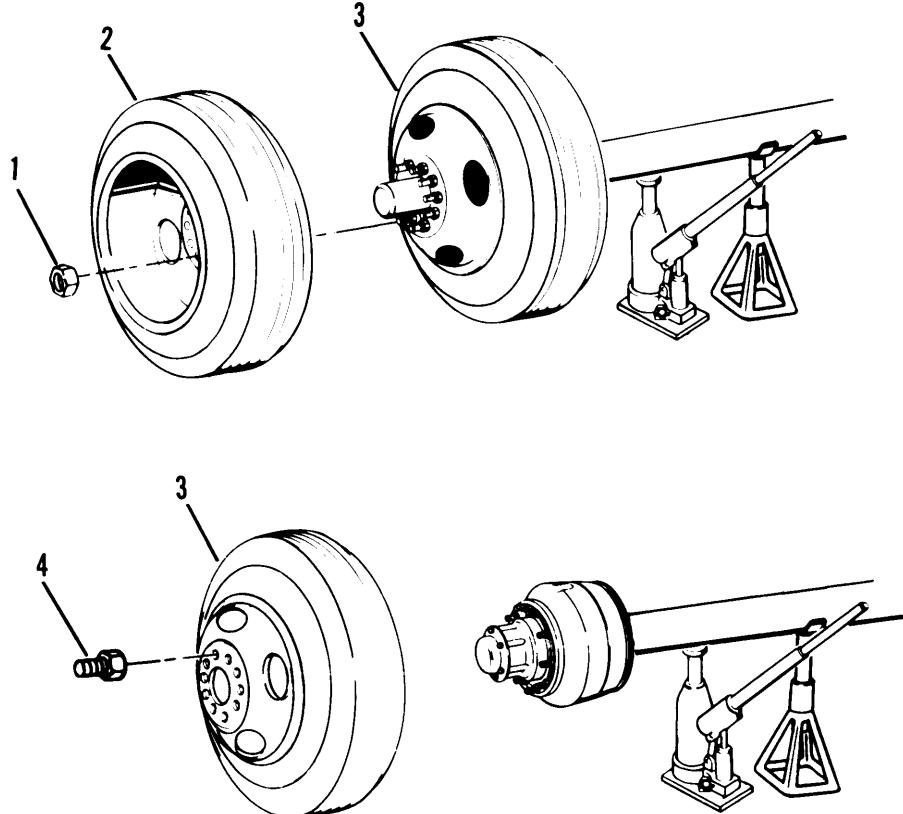

Figure 4-42. Tire and Wheel Removal
- (1) Set chock blocks opposite the set of wheels being removed.
- (2) Loosen, but do not remove ten lug nuts (1, fig. 4-42).
- (3) Jack up axle until wheels (2 and 3) are clear of the ground.
(1) Install inner wheel (3, fig. 4-42) and ten lugs (4).